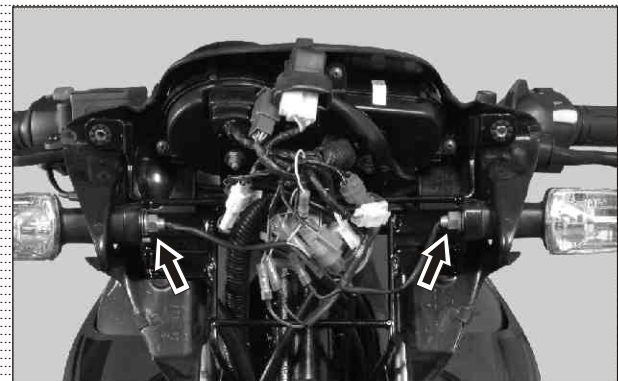

Fig. 5.46
- Loosen turn signal lamp L & R mounting nuts. Take out nut along with the spring washers and turn signal lamps L&R. (Fig. 5.46)